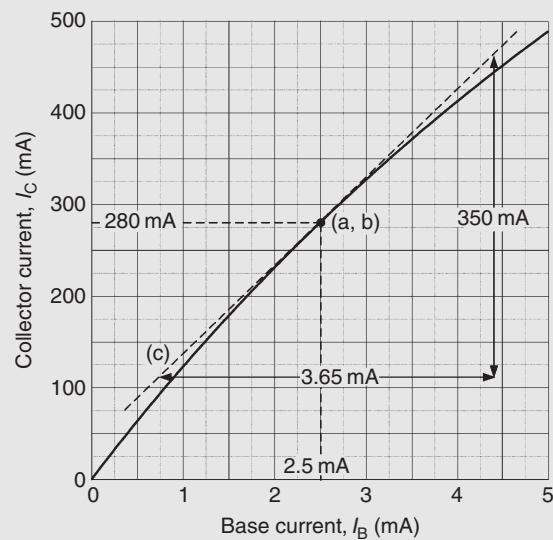

Figure 12.15
**Problem 5.** Fig. 12.15 shows the transfer characteristic for an n-p-n silicon transistor. When the base current is 2.5 mA, determine (a) the value of collector current, (b) the static value of current gain and (c) the dynamic value of current gain
- (a) From Fig. 12.15, when  $I_B = 2.5 \text{ mA}$ , **collector current,  $I_C = 280 \text{ mA}$**  (see point (a, b) on the graph)
- (c) In Fig. 12.15, the tangent through the point (a, b) is shown by the broken straight line (c). Hence, **the dynamic value of current gain**